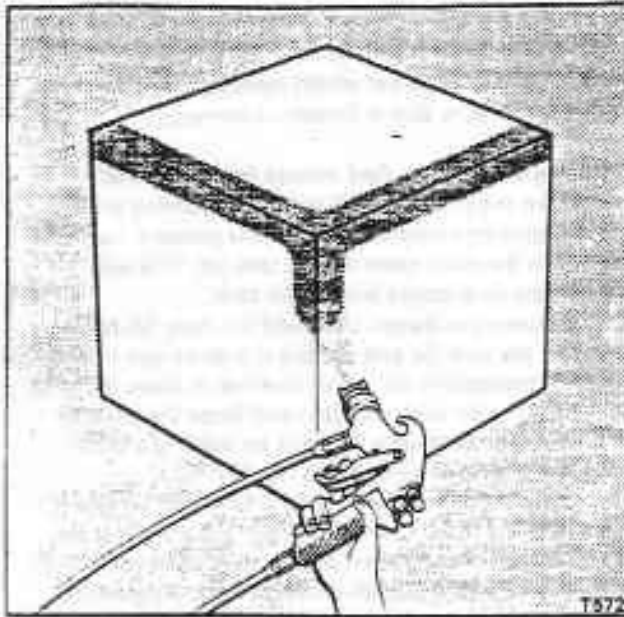

Fig. S17-34 Outside corner spraying
2. Outside corner spraying. When spraying an outside corner the gun should be held directly facing the corner edge so that the adjoining surfaces are sprayed simultaneously (see fig. S17-34). The spray pattern should be across the corner edge, i.e. the pattern must be horizontal for a vertical corner and vertical for a horizontal corner.